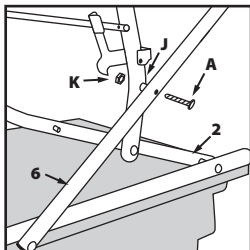

Fig. 10
- Manoeuvre component **3** and **6** so the bolt holes line up. (**Fig. 10**).